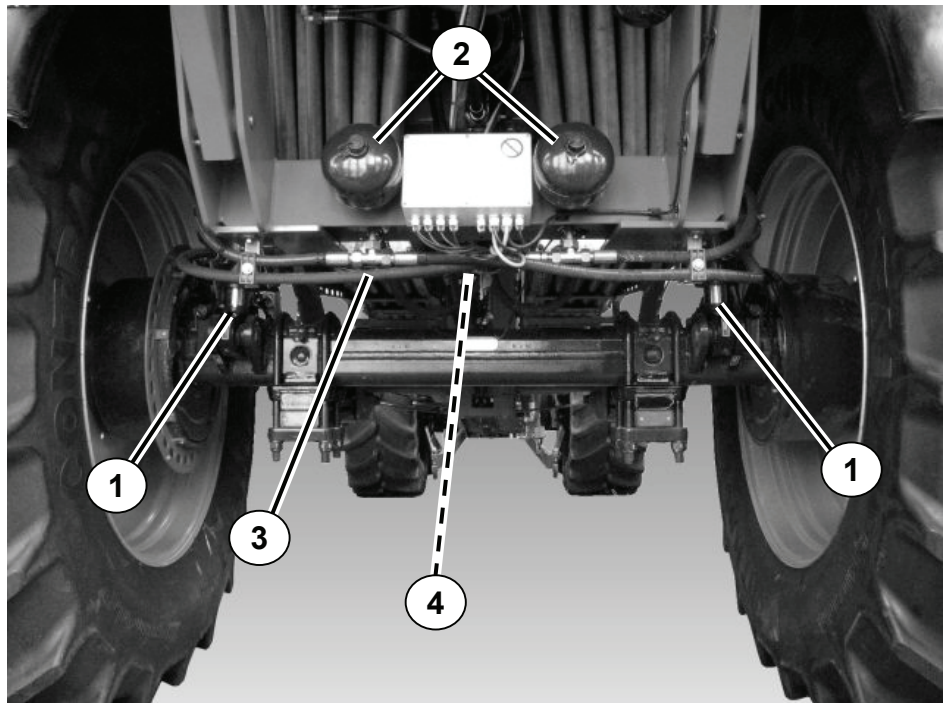

Fig. 60: Check the axle suspension
- Check the suspension cylinder (Fig. 60: Pos. 1), nitrogen accumulator (Fig. 60: Pos. 2) and hydraulic hoses (Fig. 60: Pos. 3) for damage.
- Check the unit and the pressure compensator (Fig. 60: Pos. 4) visually for damage and leaks.
- Check the suspension cylinder fastenings such as bolts (1) or circlips (2) for firm seating.